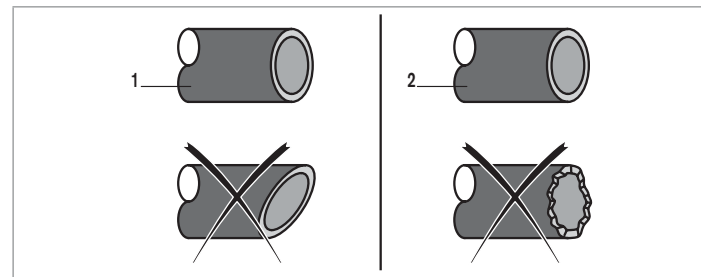

Fig. 12: Pipe cut and deburred
- Cut the pipe squarely [1] and deburr [2]. Refer to Fig. 12.